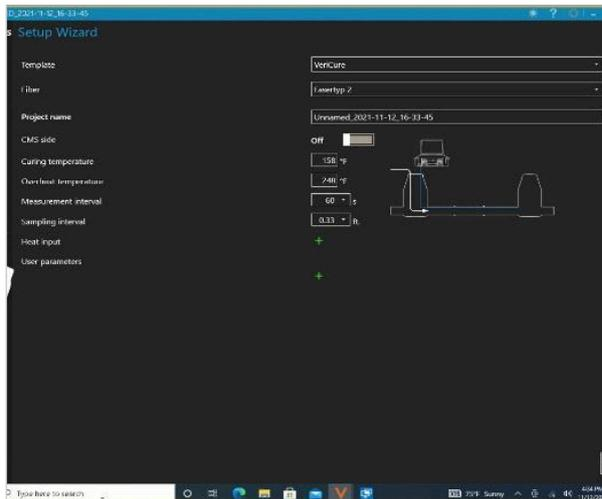

Figure 7: Calibration Icon
- > Troubleshoot with software (see Figure 7).
- Click on calibration icon – see Figure 7 and 8.
- Click on paper/pen icon which will take you to Figure 7 fill out project parameters.